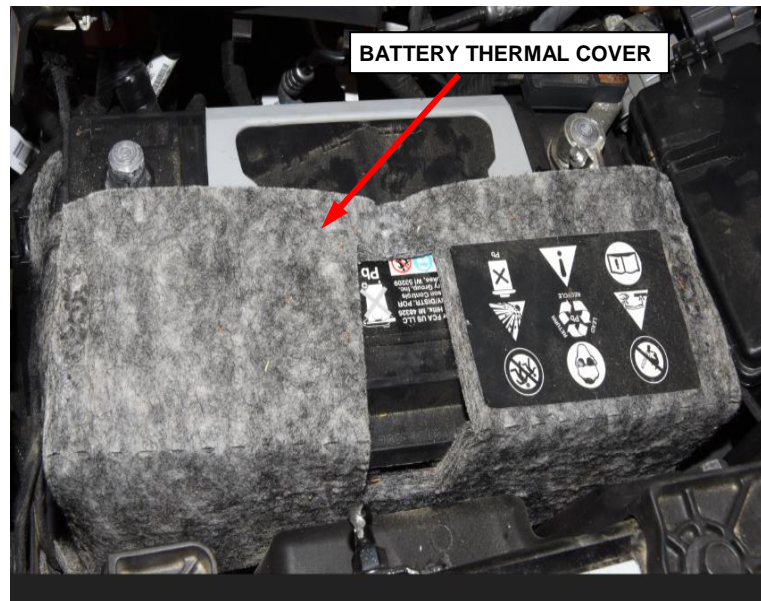

Figure 8 – Battery Thermal Cover
8. Remove the battery thermal cover from the battery (Figure 8).
25. Install the battery thermal cover to the battery. **Diesel engine only:** Ensure that the small wire and eyelet pass inside the cover as originally installed (Figure 8).